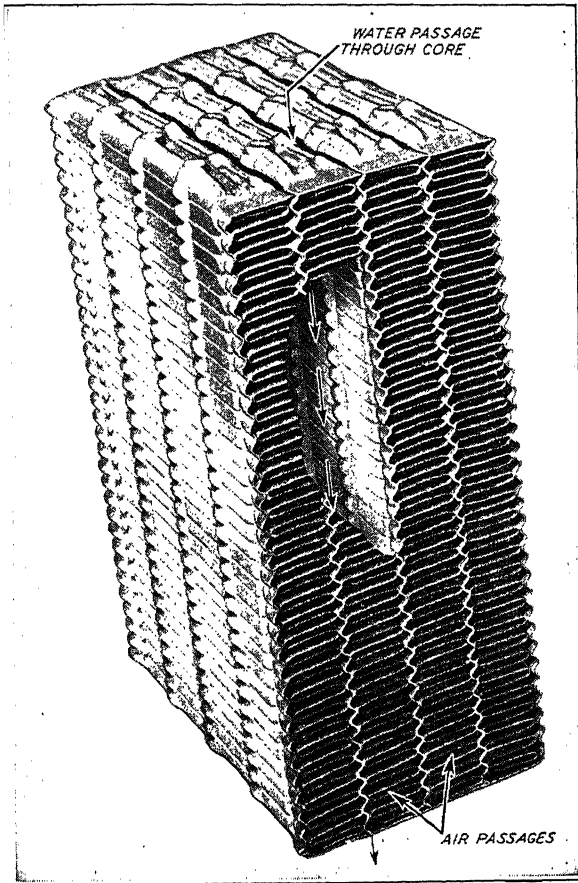

Fig. 7. Cadillac Cellular Radiator Core Section
*Cadillac Radiator Core.* A section of the radiator core used in all of the current Cadillac models is shown in Fig. 7. It will be noted that the water passages, as indicated by the arrows, are straight and provided with smooth interior, permitting free flow of the water and facilitating the cleaning of the radiator. The fins, which are mounted between the vertical water passages, are of the full bonded construction. Louvers are cut into the fins so as to increase the heat dissipating capacity of the radiator core as the air is drawn or forced through the cooling fin, past the water cells. The material used in the radiator core is all copper.